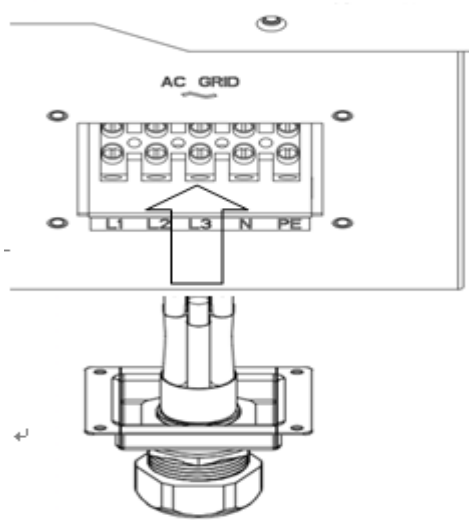

Figure 31
7. Connect L1, L2, L3, N and the protective conductor (PE) to the AC terminal in accordance with the labeling (see fig 31).